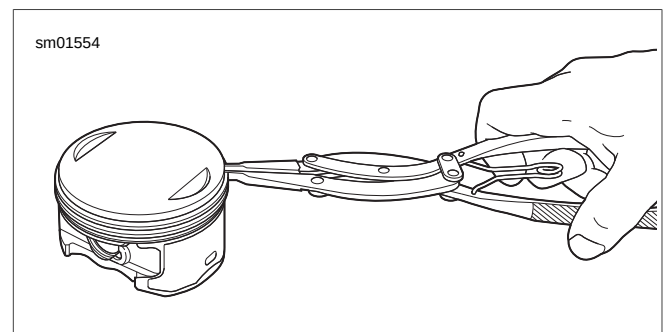

Figure 3-79. Installing Piston Rings
4. See Figure 3-79. Use a piston ring expander tool to slip compression rings over piston into their respective grooves. Install second compression ring first, then top compression ring. Be extremely careful not to over expand or twist rings, or damage piston surface when installing rings.